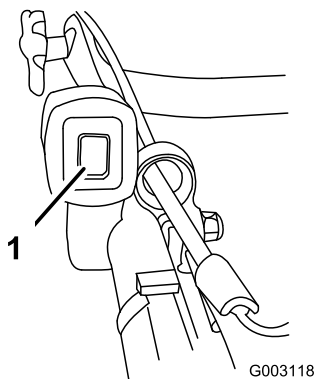

Figure 16
1. Push the ignition toggle switch to the On (I) position (Figure 16).